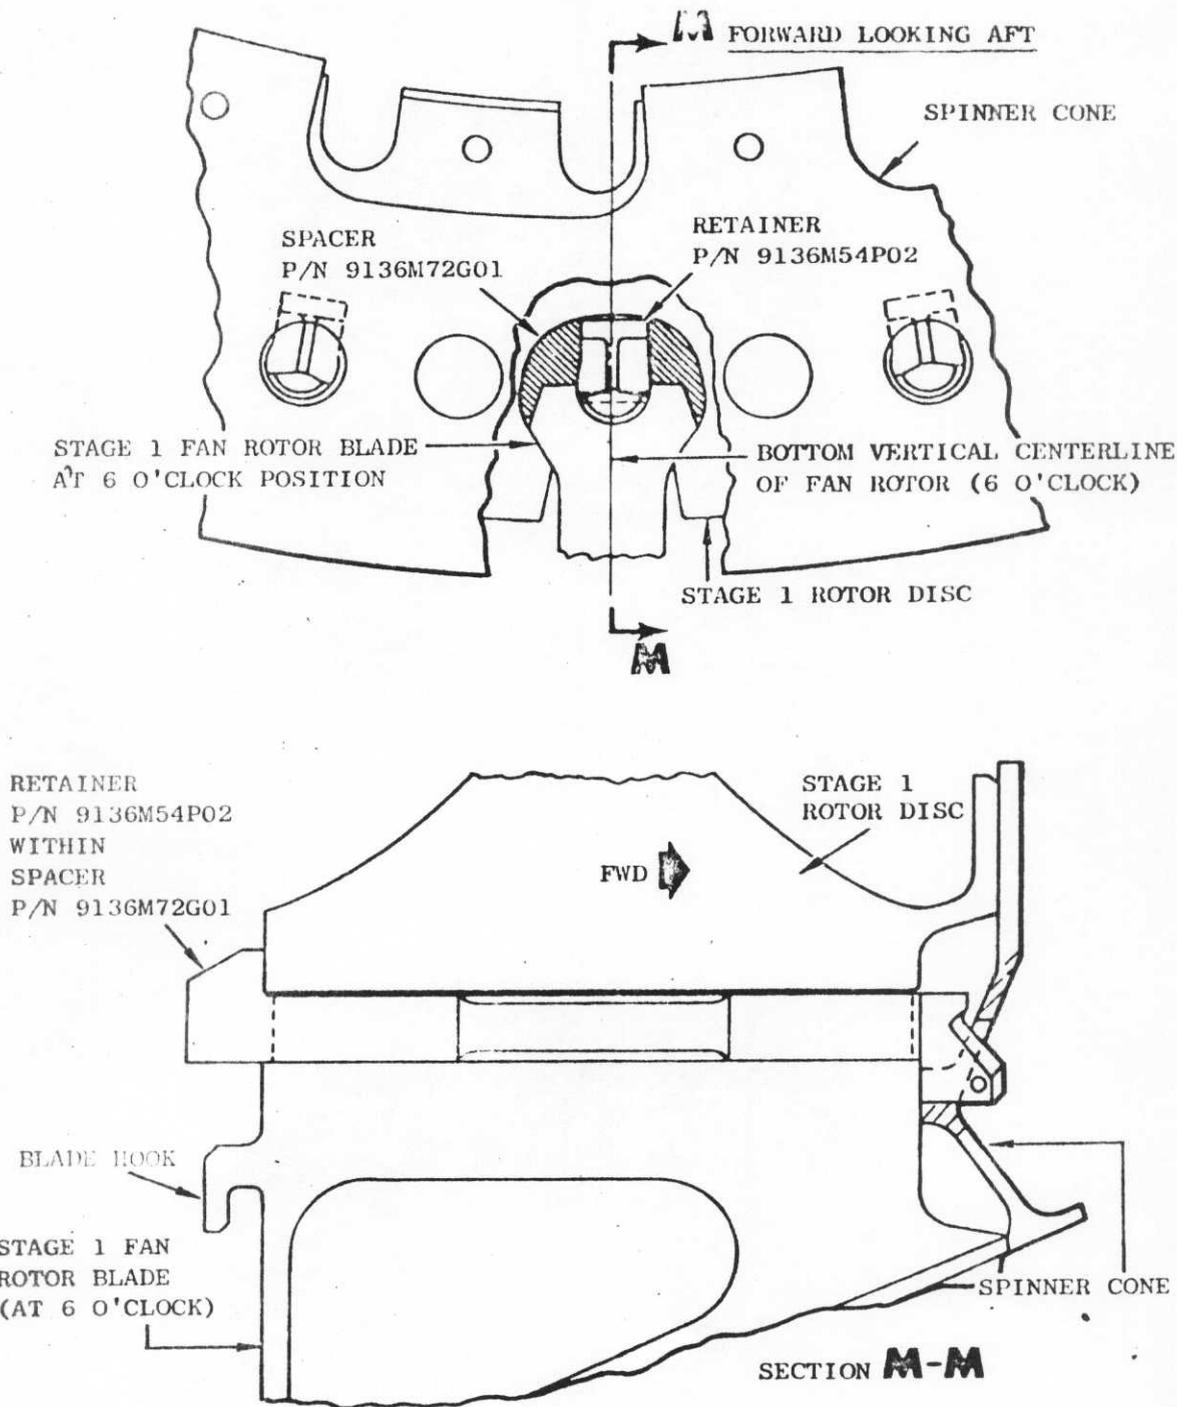

Figure 2
- (1) Assemble the metal Retainer (P/N 9136M54P02) to the new Fiberglas-filled Nylon Spacer (P/N 9136M72G01) with the forward end of the Retainer (the end with the hole) at the forward end of the Spacer (the end with the two tabs or "ears"). Pop the two pieces together so that the Retainer rests inside the Spacer.
- (2) Rotate the Retainer relative to the Spacer until the Retainer is within the cross-section envelope of the Spacer. This will be 90° to its final position after installation or 90° to its position as shown in Figure 2.
- (3) Liberally coat the external bearing surfaces of the Spacer with molydisulphide lubricant (Spray-Kote or equivalent) to aid its installation.
- (8) Carefully tap the Spacer and Retainer assembly until the aft face of the Forward Head of the Retainer bottoms against the forward face of the Fan Rotor Blade Dovetail.
- (9) Rotate the Retainer so that the hole in the forward end is radially outboard as shown in Figure 2. This is 90° from its position during insertion into the dovetail slot. The forward end or head will then cover the forward end of the Fan Rotor Blade dovetail while the aft end engages behind the Fan Rotor Disc to help prevent the blade from moving forward.